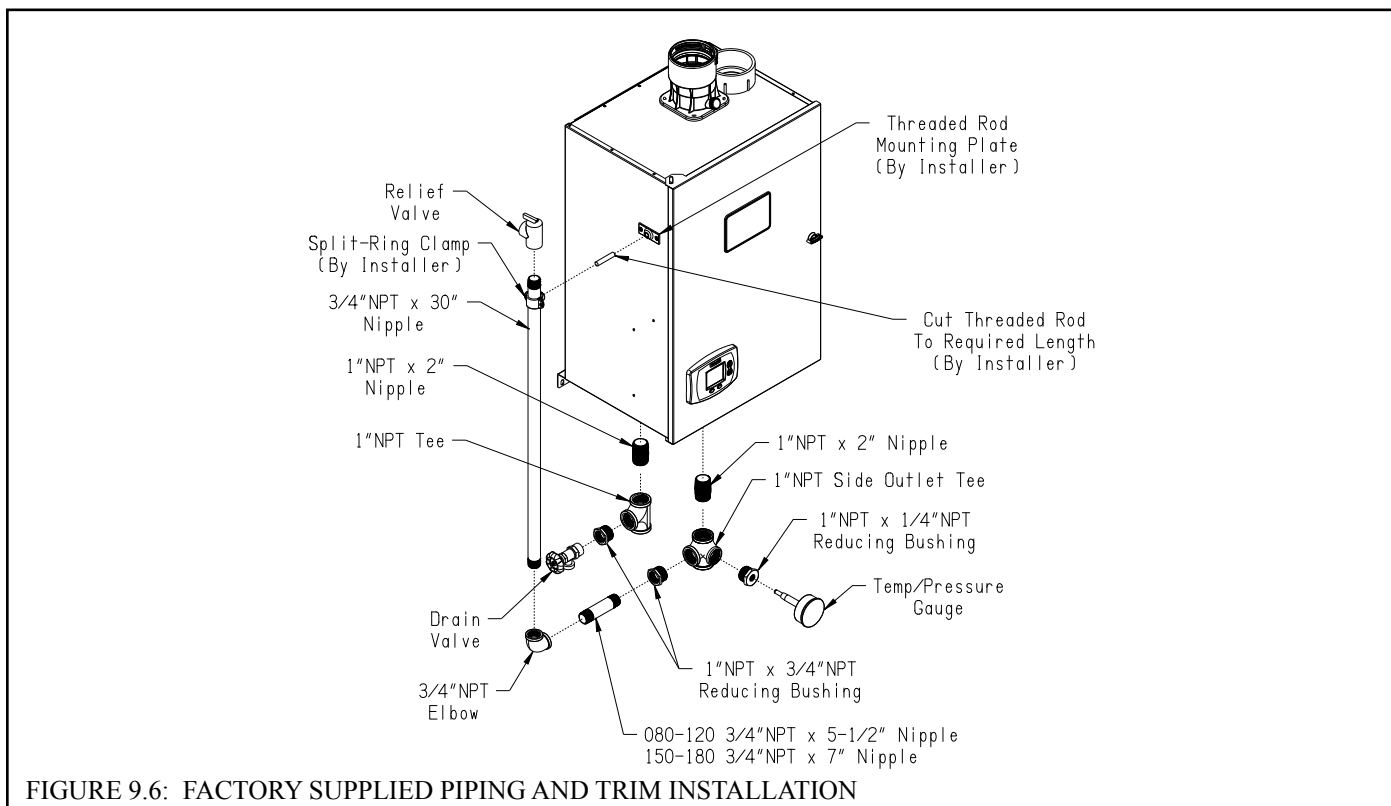

FIGURE 9.6: FACTORY SUPPLIED PIPING AND TRIM INSTALLATION
- a) Count all fittings in the planned boiler loop (the shaded piping in Figure 9.6). In doing so, do not count the secondary connection tees, unions, or the fittings supplied with the boiler (these have already been accounted for).
- 1) Relief Valve (Required) – The relief valve is shipped loose and must be installed in the location shown in Figure 9.6, using the side outlet Tee and other fittings provided. ASME Section IV currently requires that this relief valve be installed above the heat exchanger as shown. Pipe the outlet of the relief valve to a location where water or steam will not create a hazard or cause property damage if the valve opens. The end of the discharge pipe must terminate in unthreaded pipe. If the relief valve discharge is not piped to a drain, it must terminate at least 6” above the floor. Do not run the discharge piping through an area that is prone to freezing. The termination of the relief valve must be in an area where it is not likely to become plugged by debris.
- 2) Gauge (Required) - Indicates supply water pressure and temperature. This gauge is shipped loose. Install it as shown in Figure 9.6.
- 10) Drain Valve (required) – Install the drain valve supplied as shown in Figure 9.6.